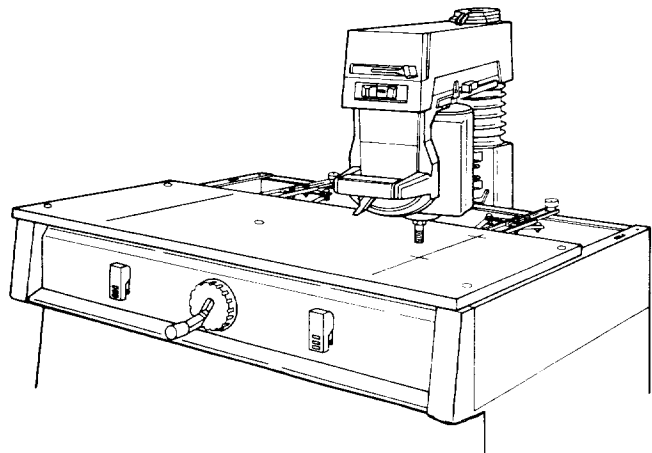

Fig. 56
4. Turn the *motor* until the *arbor shaft* is pointing straight down toward the *table*. (Figure 56)
6. Draw two lines on the *front table*, over the *table rails*. (Figure 56)